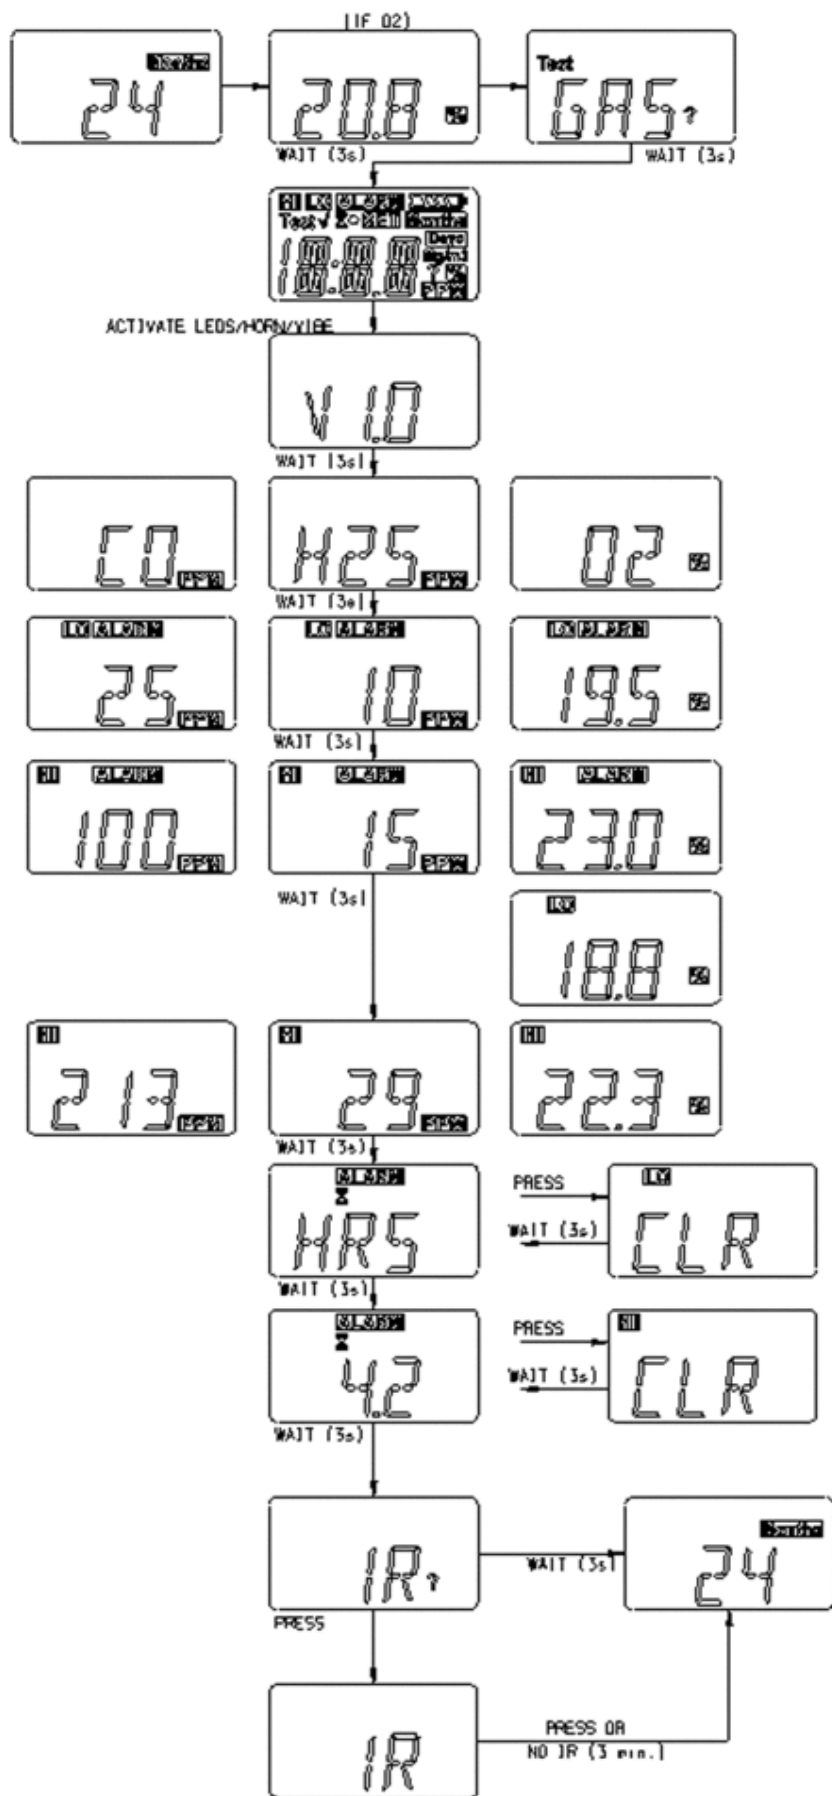

Figure 5 Accessing ALTAIR Pages Flow Chart
- See Figure 5 for additional details.